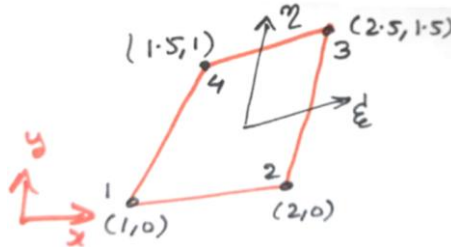

Figure.3
6. a) Evaluate the jacobian matrix for the isoparametric quadrilateral element shown in figure.3 [9]